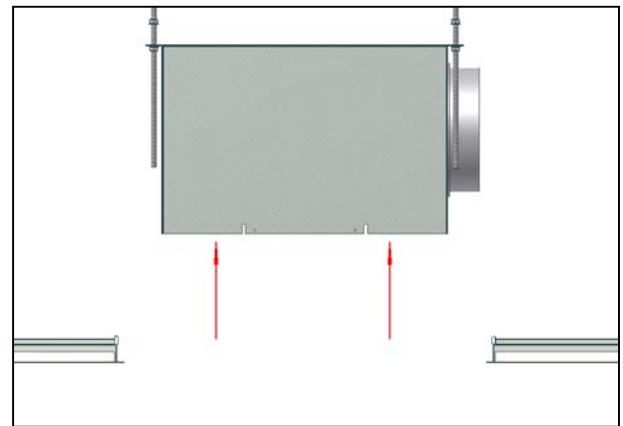

Figure 2: Raise Plenum Box
2. Once you are satisfied with its alignment within the ceiling grid, raise the Plenum Box approximately 200mm (or as required) above the grid to allow sufficient space to install the Diffuser (See figure 2).